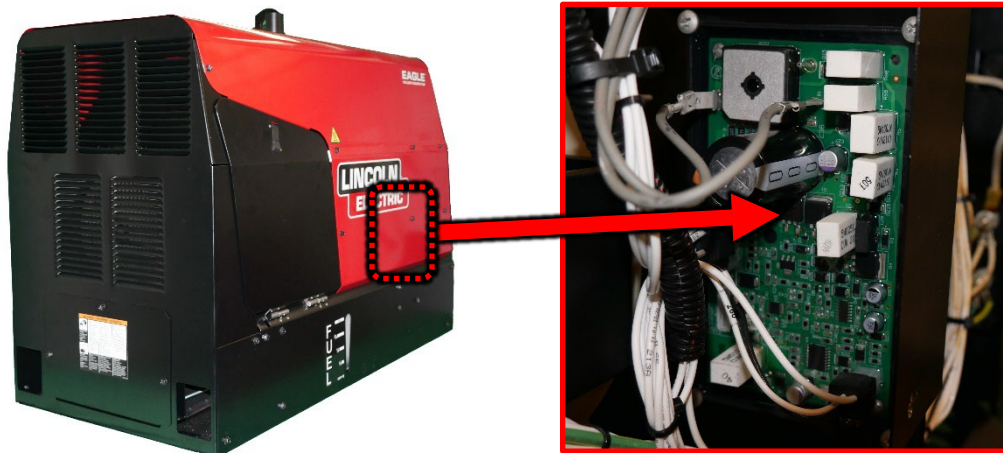

Figure F.1
1. For location of the PCB1 Field and Idler board refer to Figure F.1.